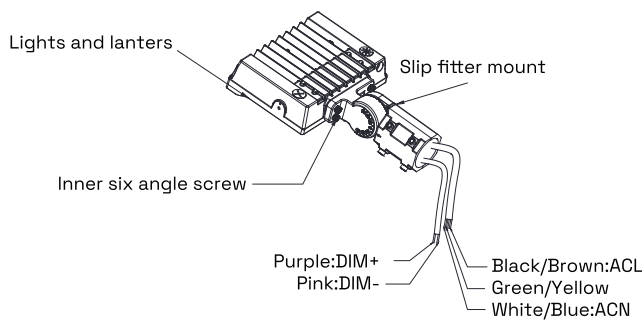

Fig 2.3
Step 2: Finish the wire connection according to the right mode of connection (pay attention to positive wire, negative wire, and ground wire, and ground wire), and then put wire into lamp pole. Figure 2.3